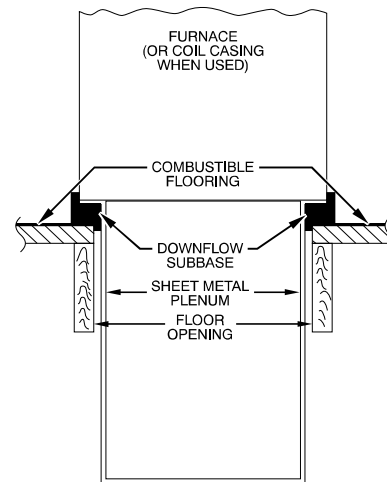
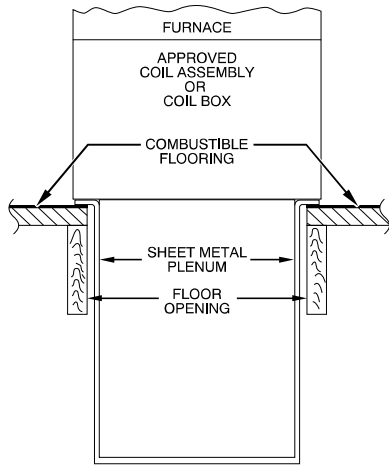

Fig. 12 – Furnace, Plenum, and Subbase Installed on a Combustible Floor
Fig. 13 – Furnace, Plenum, and Coil Assembly or Coil Box Installed on a Combustible Floor ^{A08556}
4. If downflow subbase is used, install as shown, see Fig. 12. If manufacturer’s cased evaporator coil or coil casing is used, install as shown in, see Fig. 13.